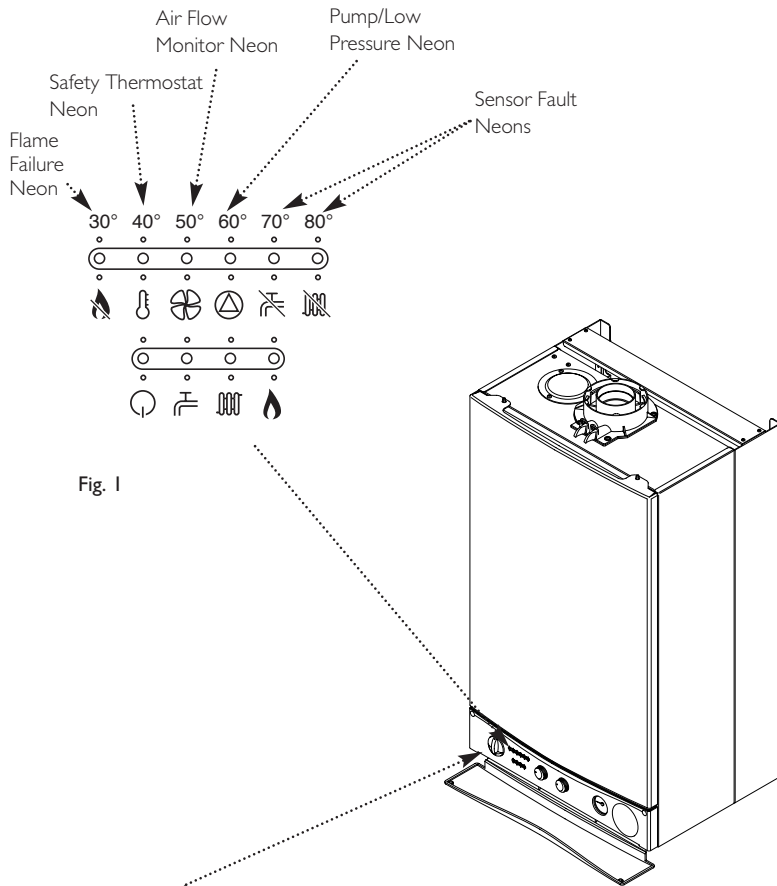

Fig. 1
2. If the (⊕) neon illuminates it indicates that the flue or flue terminal is blocked or obstructed in some way, or that there is an internal fault. If there is no external blockage of the flue terminal that can be easily removed contact your Installer or Service Engineer (Fig. 1).
1. The neon (⊕) will illuminate if the circulating pump is faulty or the system pressure drops below the minimum requirement (Fig. 1).
1. When either of the (⊕) or (⊕) neons is illuminated a fault on one of the temperature sensors is indicated (Fig. 1). Contact your Installer or Service Engineer.
1. Your Potterton Performa HE is fitted with an additional safety devices, which shut down the boiler in the event of the system, boiler or flue overheating. The safety thermostat neon (⊕) will light in this instance (Fig. 1).
1. The red flame failure neon (⊕) will illuminate in the event of the burner failing to light, when incomplete lighting of the burner occurs or blockage of the condensate drain (Fig. 1).